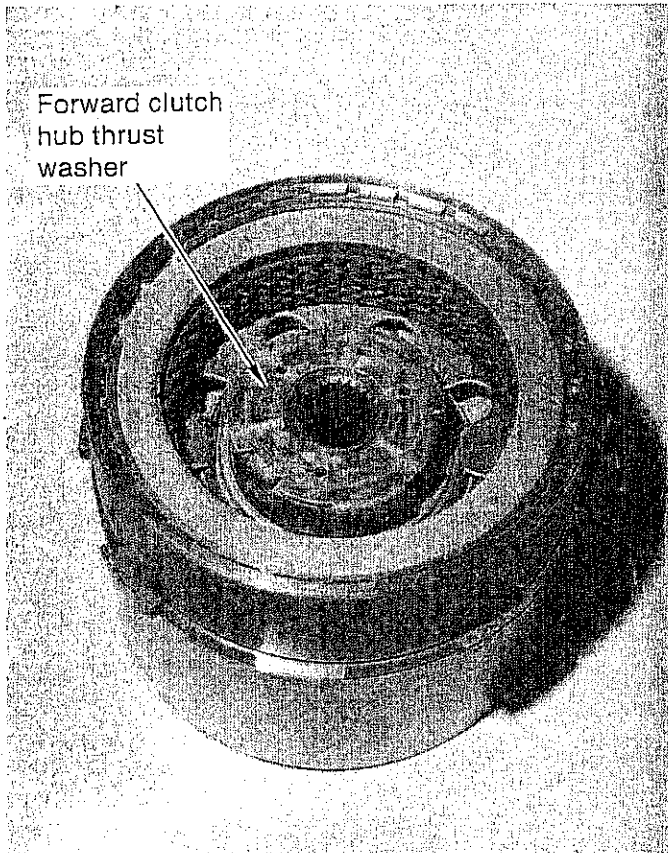

FIGURE 47
STEP 4. Install the forward clutch hub thrust washer in position on the forward clutch cylinder. (See Fig. 47) Use grease to retain it if necessary. Install the clutch hub into the forward clutch cylinder, rotating the hub as necessary to engage the forward clutches. Make sure the thrust washer does not fall out of place during hub